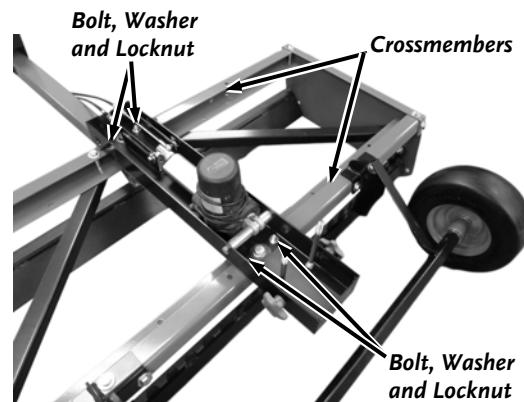

Figure 20
30. Position the Actuator Assembly onto the Frame Crossmembers with the Cables towards the front (**Figure 20**).